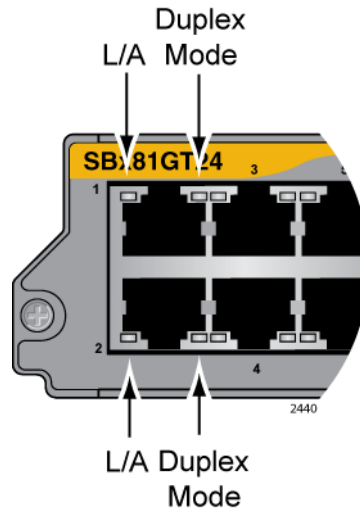

Figure 14. Port LEDs on the AT-SBx81GT24 Line Card
**LEDs** Each port on the AT-SBx81GT24 Line Card has two LEDs. The LEDs are shown in Figure 14 on page 40 and described in Table 7 on page 40.